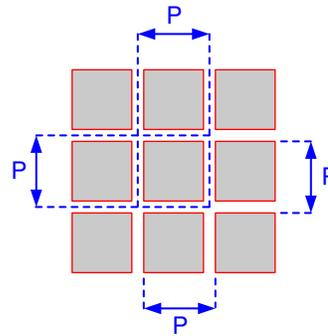

图 6-8. Micromirror Array Physical Characteristics
| M         | Number of active columns (1)        | See 图 6-8.                 | 640micromirrors     |
| N         | Number of active rows (1)           | See 图 6-8.                 | 360micromirrors     |
| P         | Micromirror (pixel) pitch (1)       | See 图 6-8.                 | 7.56μm              |
- (1) See 图 6-8.
- (2) The structure and qualities of the border around the active array include a band of partially functional micromirrors called the “pond of micromirrors” (POM). These micromirrors are structurally and/or electrically prevented from tilting toward the bright or “on” state but still require an electrical bias to tilt toward “off.”
- (3) Out of the eight POM rows on the top and bottom, only the one POM row closest to the active array is electrically attached to that reset group. The other seven POM rows are attached to a dedicated POM internal reset driver circuit.